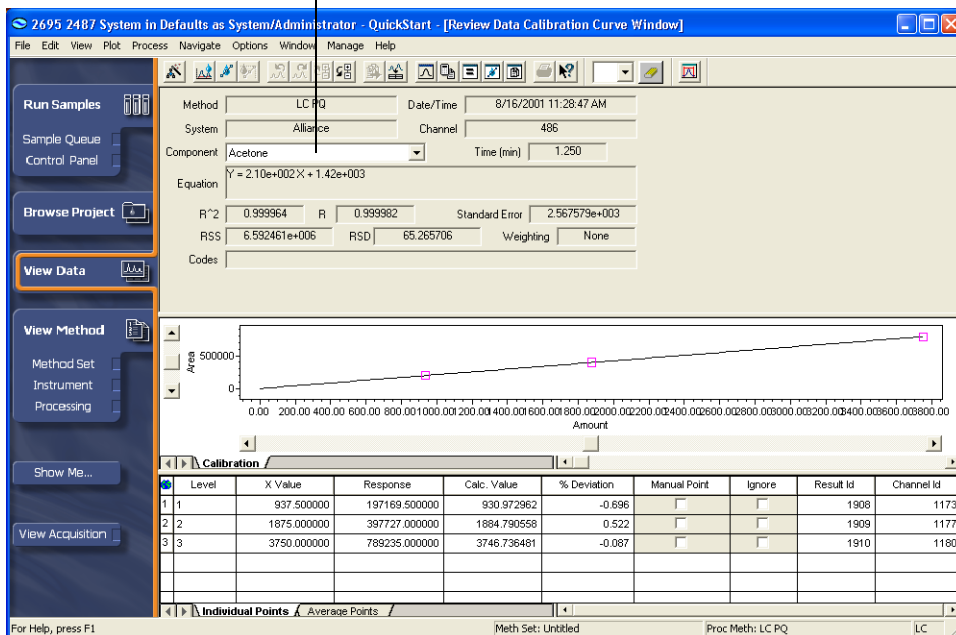

Figure 7-4 Calibration Curve Window
- Click  (Calibration Curve) in Review. The Calibration Curve window appears (Figure 7-4).
Select the component name from the Component list to view the calibration curves and data for components in the Calibration Curve window (Figure 7-4).